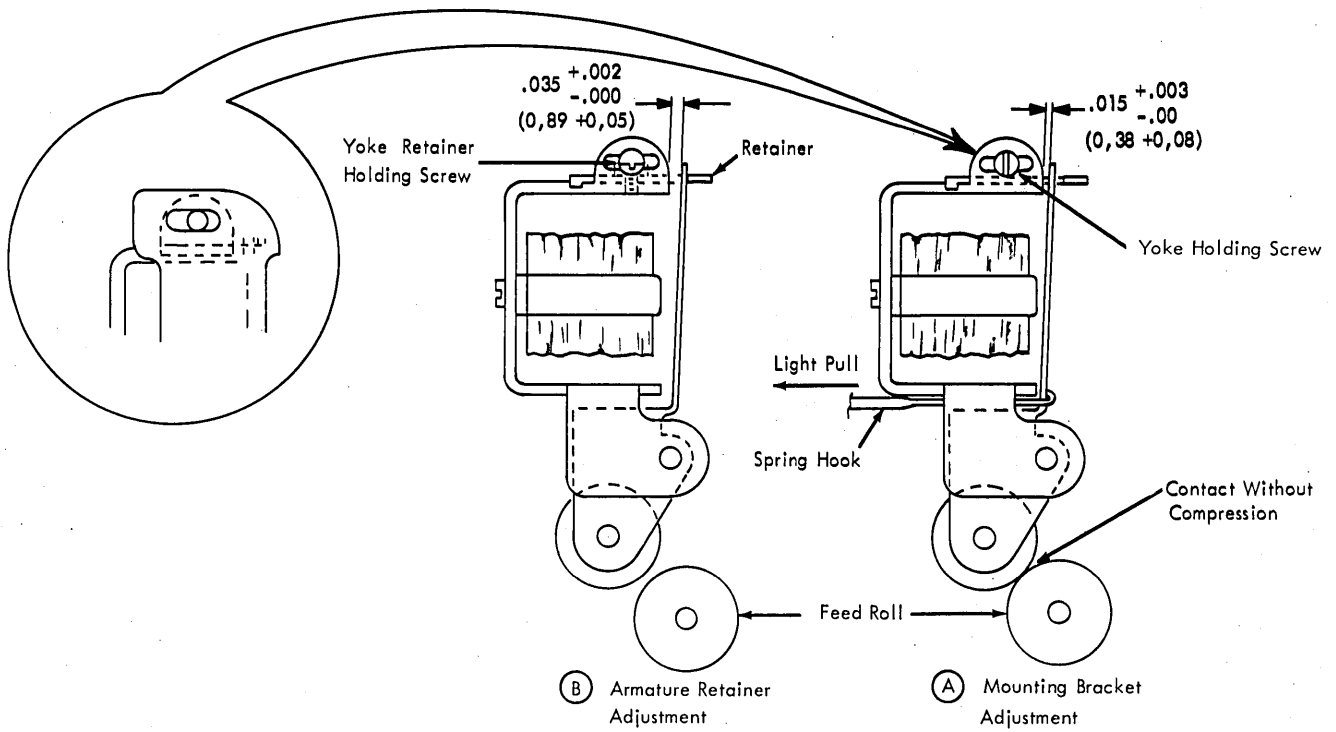

Figure 4-97. Feed Magnet Assembly Adjustments
**Feed Magnet Assembly:** The feed magnet assembly adjustment has two phases (Figure 4-97). The yoke adjustment controls feed-roll pressure, the retainer adjustment controls armature travel. These adjustments should be checked and performed in the correct sequence.
1. Check for  $.015 + .003 - .00$  in. ( $0,38 + 0,08$  mm) clearance between the armature and the yoke when the armature is attracted as shown in Figure 4-97. Use a spring hook to apply light pressure .3 to .5 pounds (136 to 227 kg) on the armature just above the pivot. Do not use excessive pressure because this compresses the feed roll and gives a false reading.